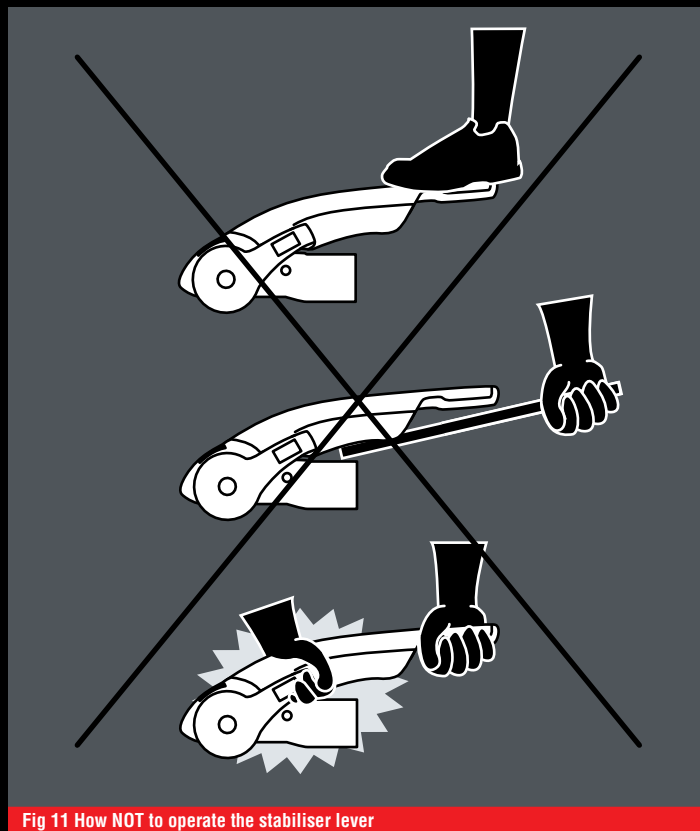

Fig 11 How NOT to operate the stabiliser lever
2. Press stabiliser lever down by hand force only. **DO NOT** use your foot or an extension bar, this will damage the components (Fig 11).
3. When opening or closing the stabiliser lever, please ensure your hand does not touch the coupling handle - you may accidentally trap your fingers (Fig 11).